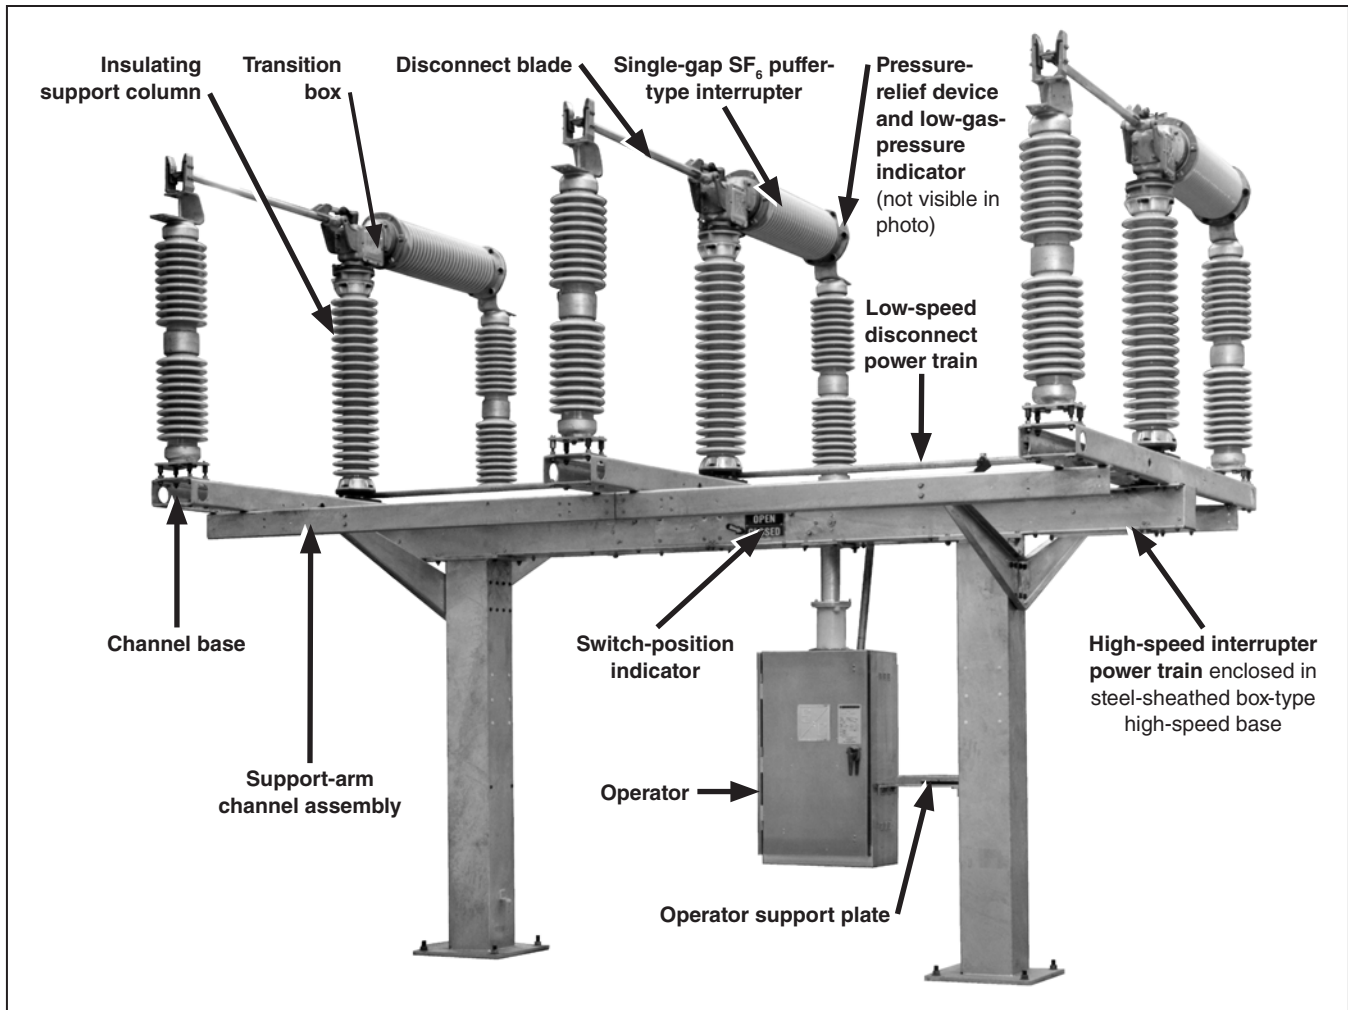
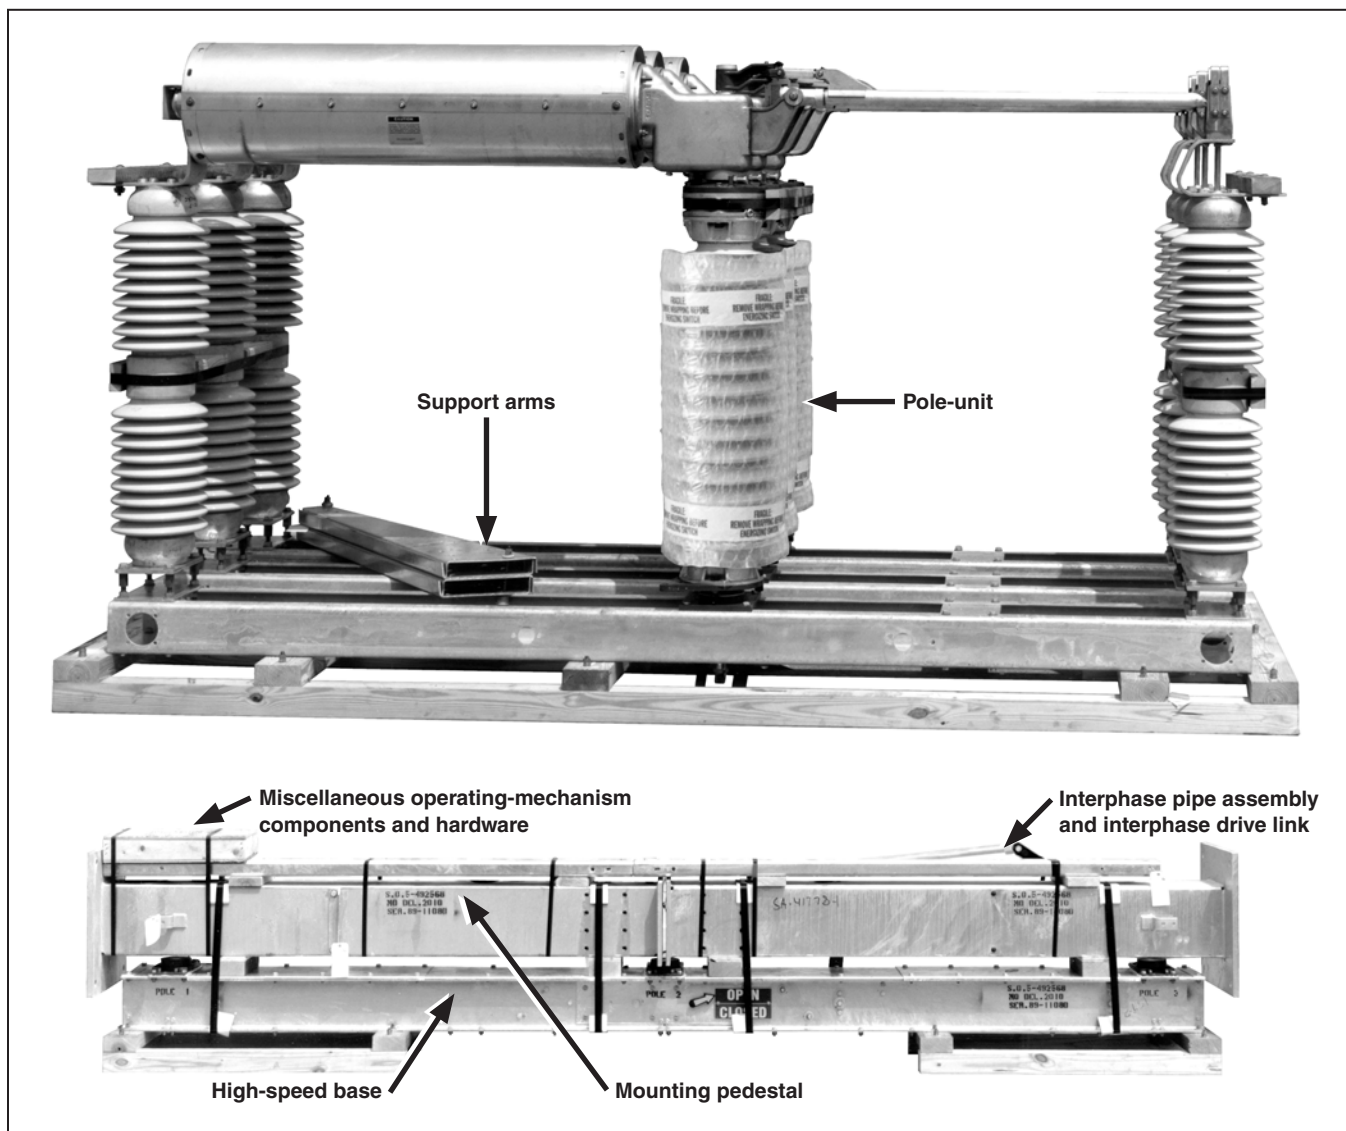
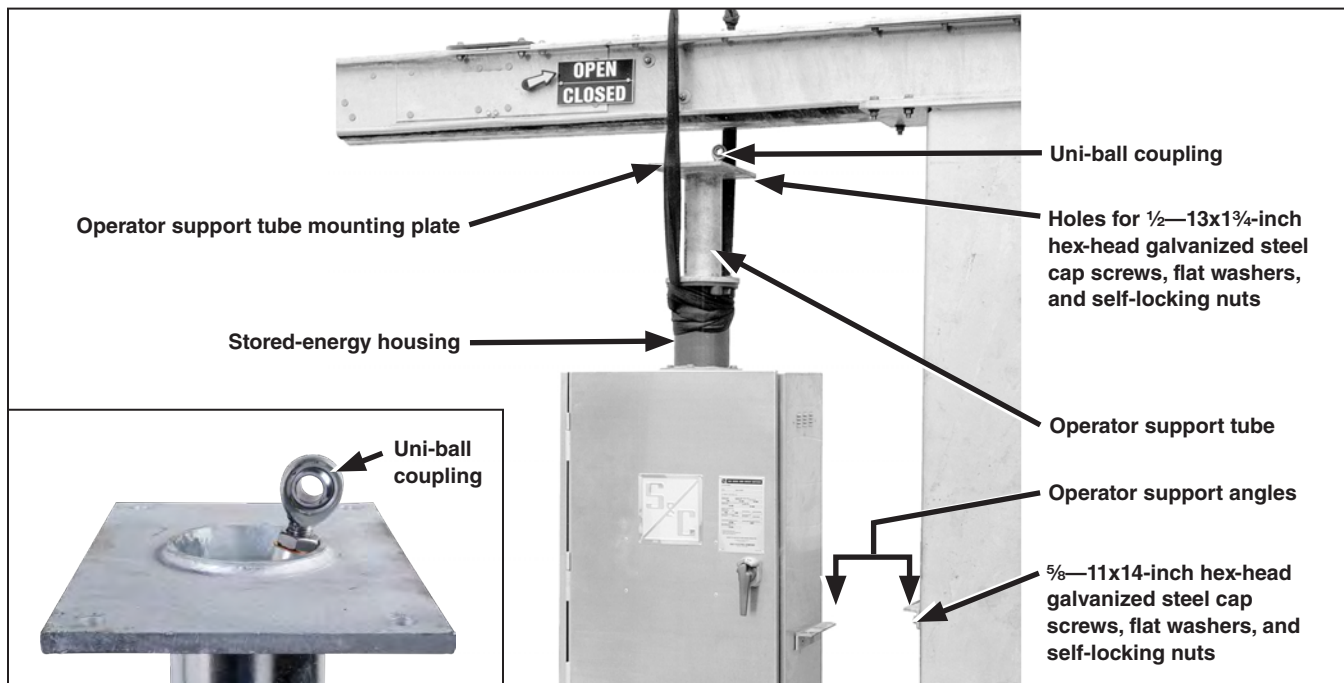

Figure 1. A Model 2010 Series 2000 Circuit-Switcher rated 138 kV.
Figure 2. A typical shipment of a Model 2010 Series 2000 Circuit-Switcher. The operator is shipped on a separate skid. See Figure 9 on page 15.
Figure 10. Hoisting the operator into position.
An S&C catalog drawing will be found in a water-resistant envelope attached to the wrapper around one of the insulating support columns. Study this drawing carefully and check the bill of materials to verify all parts are at hand. The Model 2010 Series 2000 Circuit-Switcher shipment should include the following items, as shown in Figure 1 on page 10 and Figure 2 on page 11.
Cut the steel straps that bind the mounting pedestals to the high-speed base, the straps that bind the container of miscellaneous operating-mechanism components and hardware, and the straps that bind the pole-units. Also remove the wood bracing between the pole-unit terminal pads. See Figure 2.
STEP 3. Reposition the lifting sling around the front of the stored-energy housing and wrap another lifting sling around the back of the stored-energy housing, as shown in Figure 10. Make sure the operator door faces the same way as the switch-position indicator on the high-speed base. Then, carefully hoist the operator into place.
STEP 4. Attach the operator support angle to the appropriate mounting pedestal using two $\frac{5}{8}$ — 11×14 -inch hex-head galvanized steel cap screws, four flat washers, and two self-locking hex nuts furnished. Refer to the catalog drawing and Figure 10. Then, attach the operator support plate to the angle on the side of the operator enclosure and to the operator support angle on the mounting pedestal using four $\frac{1}{2}$ — $13 \times 1\frac{1}{2}$ -inch hex-head galvanized steel cap screws, flat washers, and self-locking hex nuts furnished. Securely tighten the screws. See Figure 1 on page 10 and Figure 10. On circuit-switchers using two or three mounting pedestals, insert the hole plugs furnished into all unused holes in the pedestals.